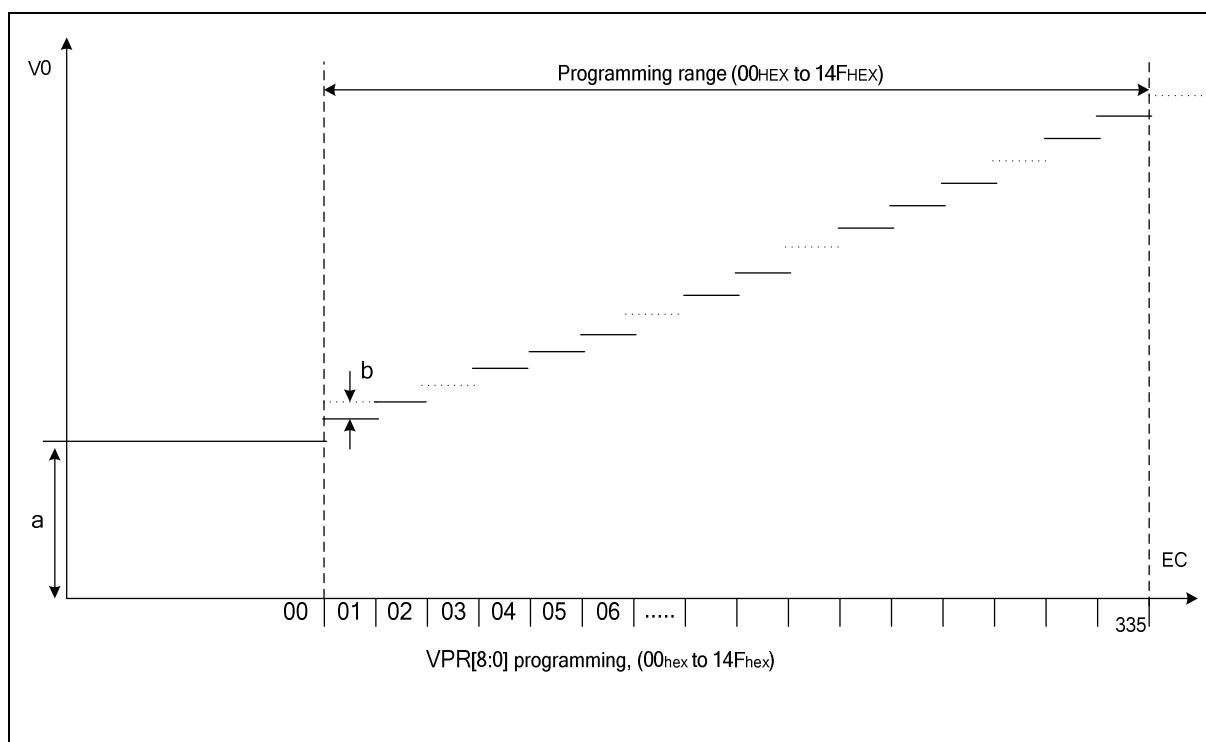

Figure 28 V0 programming range
The VPR[8:0] value must be in the V_0 programming range as given in **Figure 28 Evaluating equation (1).**